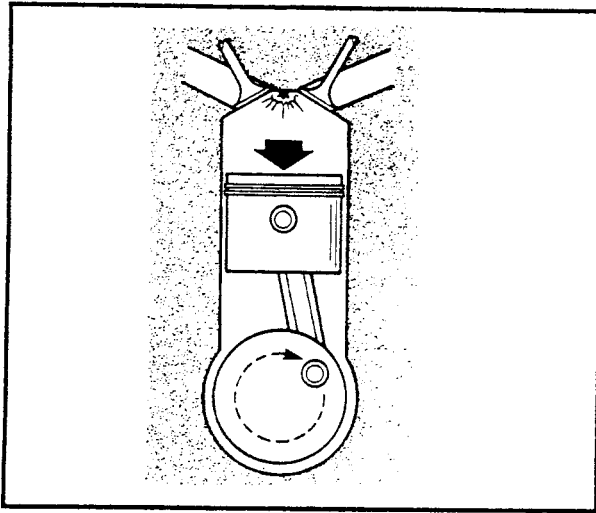

Figure 2-3. Power Stroke
1. See Figure 2-3. At the end of the compression stroke, the fuel/air mixture is ignited. Fuel/air mixture ignition is caused by an electric spark from the spark plug.